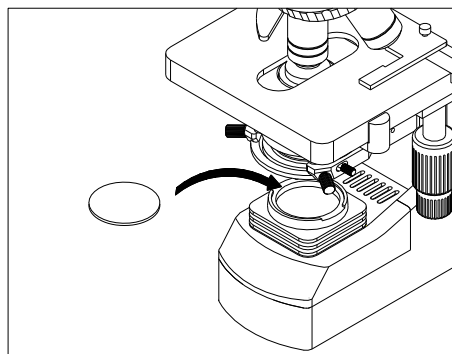

Fig. 7
2.2.4 Mounting the filters (Fig.7)